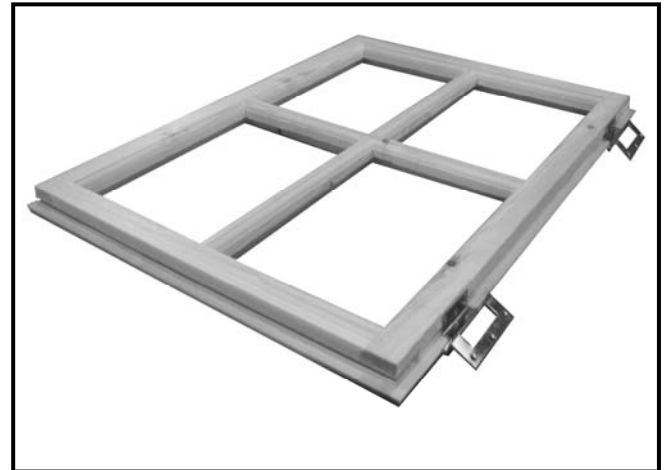

Fig A10– STYLE MAY VARY
19. **Window insert.** Place one hinge on the inner rebate part of the window; approx. One hinge width along from the rebate edge of the longest edge of the insert. The rounded part of the hinge should sit above the outer edge of the window. Screw the inner piece into position (fig. A10 & A11) using the pre drilled holes in the hinge and 3 x 25mm screws. Repeat with the other hinge. And close the hinges together.